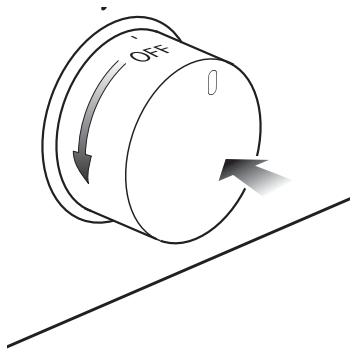

Fig. 2.2
1. Push and turn the dial in an counter-clockwise direction to the **HI** position (maximum rate), push in and hold the dial until the flame has been lit (fig. 2.2).
2. Push and turn the dial in an counter-clockwise direction up to the **HI** position (maximum rate), push in and hold the dial until the flame has been lit (fig. 2.2).